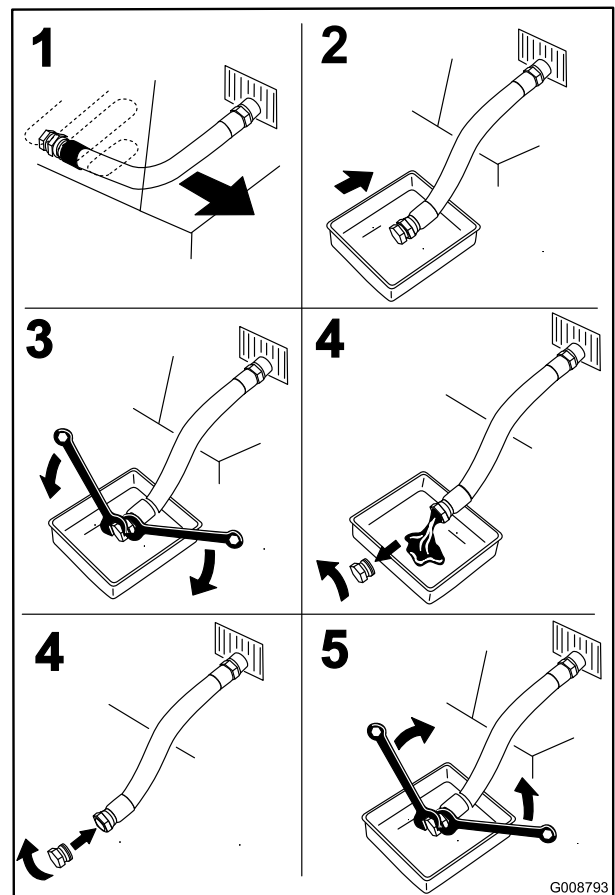

Figure 48
4. Stop the engine, remove the key, and wait for all moving parts to stop before leaving the operating position (Figure 48).